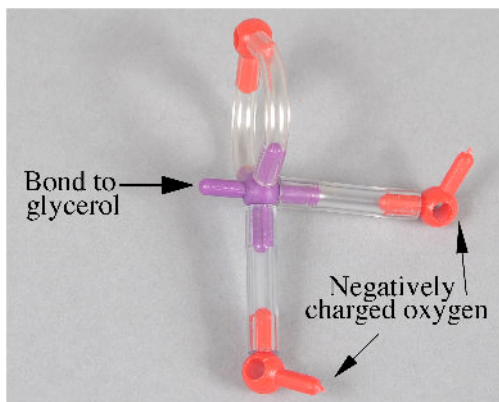

Fig. 17 Phosphate for bonding to glycerol.
G. Phospholipids are very important in the biology of membranes in cells of living things. Use the purple atom for a phosphate ion. See Fig. 17.